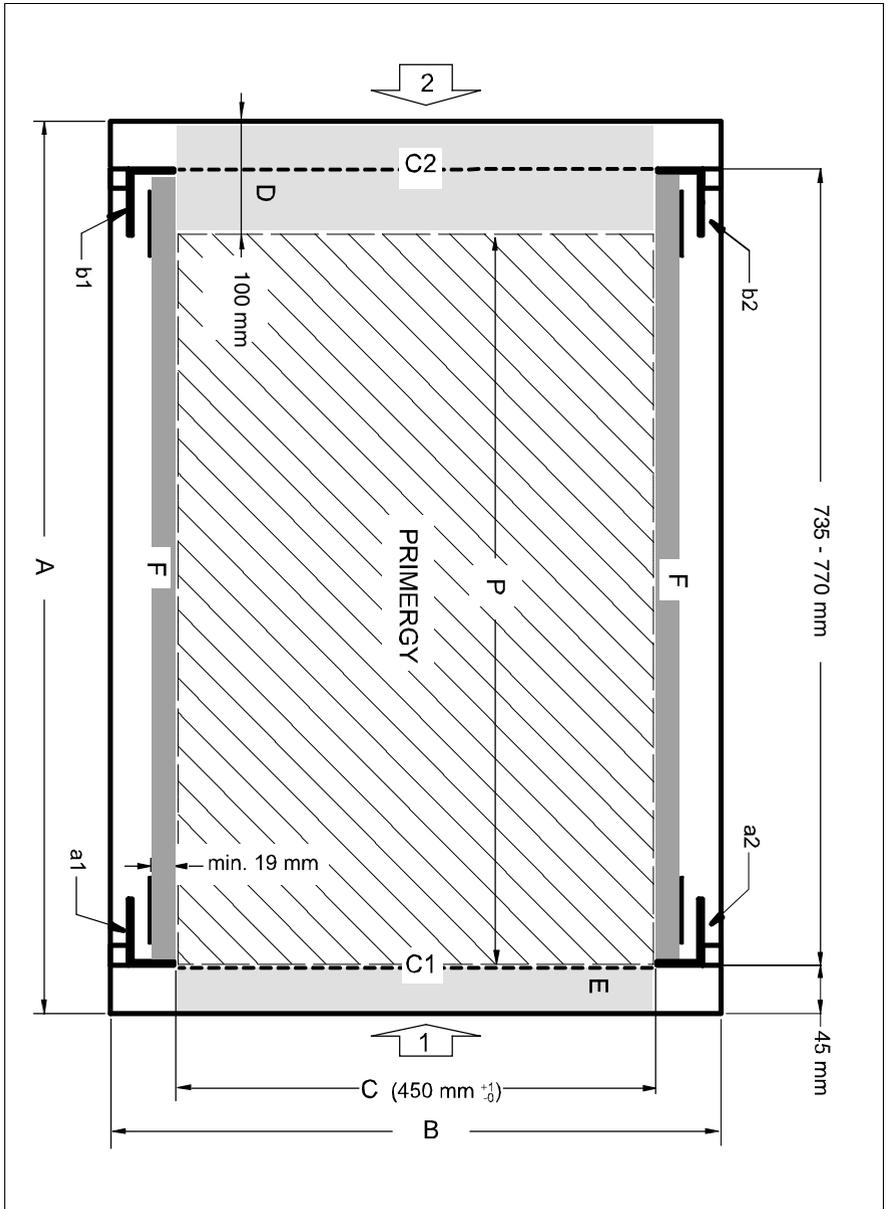

Figure 3: Mechanical requirements
- Installation dimensions (see the dimensions shown in figure 3 on page 47):